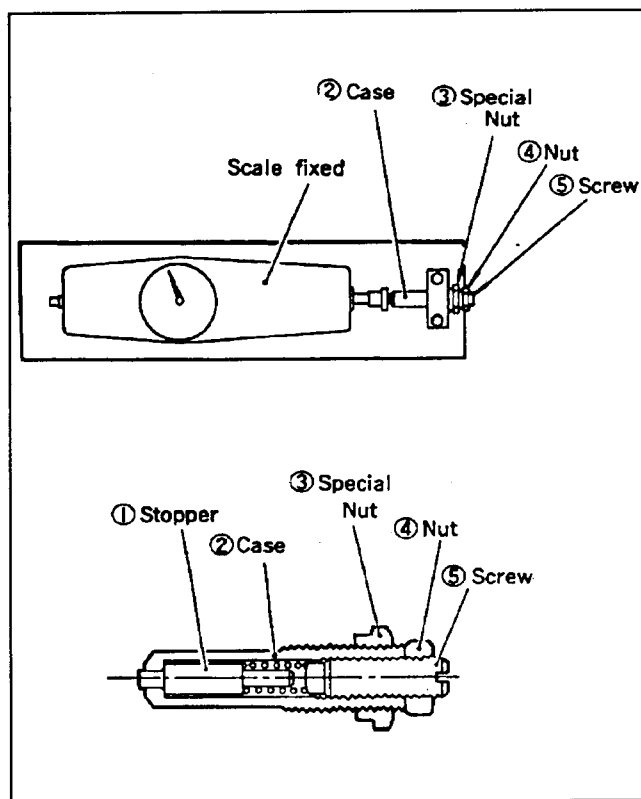
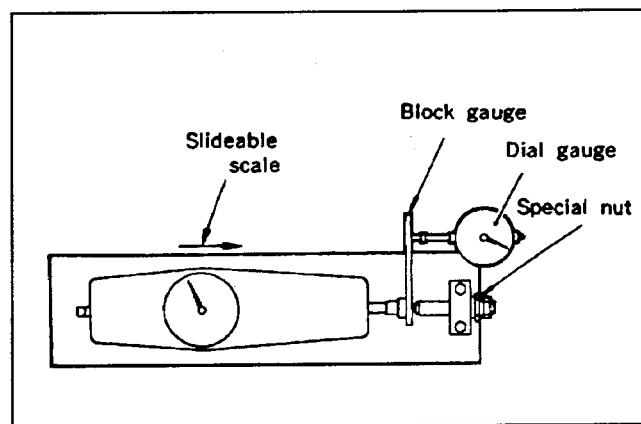

Figure 54A
Figure 55A
1. Assemble the torque spring set as shown in Figure 54A.
3. Set dial on spring scale to zero (0). Tighten spring case until a value of  $970^{+10} - 0$  grams is obtained. Lock the spring case in that position with special nut.
5. To inspect torque spring set for proper adjustment, use a test set up as shown (Fig. 55A). Gradually push scale against torque spring set until stopper is moved (or pointer of dial indicator moves). Check that load applied to torque spring at that moment is  $950^{+20} - 30$  grams.